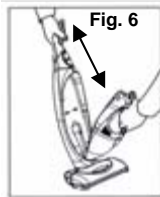

Fig. 6
2. Grasp the handle of the power unit/hand vac and pull out. (Fig. 6)
3. To replace the power unit/hand vac into the power unit/hand vac receptacle, place the bottom of the power unit/hand vac into the power unit/hand vac receptacle first, then tilt towards the power unit housing until you hear the it click into place. (Fig. 6)